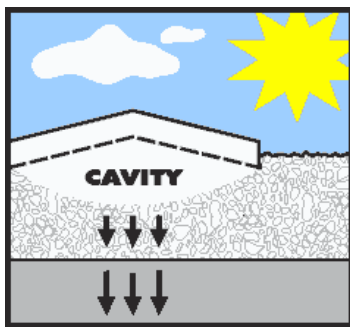

Figure 3: Loss of Fines Results in a Void Under the Pavement (1)
- Fines from the underlying pavement layers are lost, reducing overall structural strength and support for the pavement surface. Figure 3 illustrates the resulting cavity when the fines are lost due to migration or pumping.